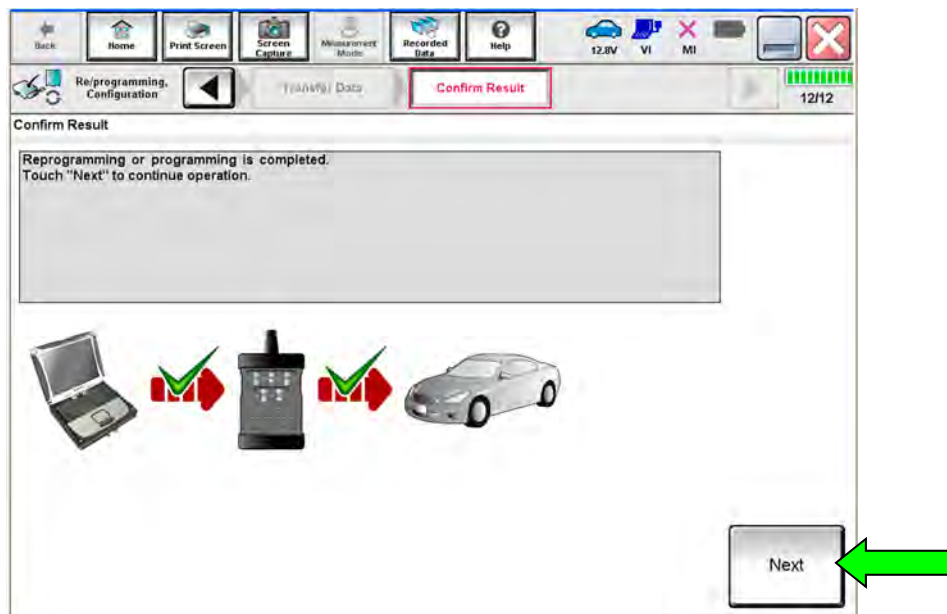

Figure 31
47. When the screen in Figure 31 displays, reprogramming is complete.